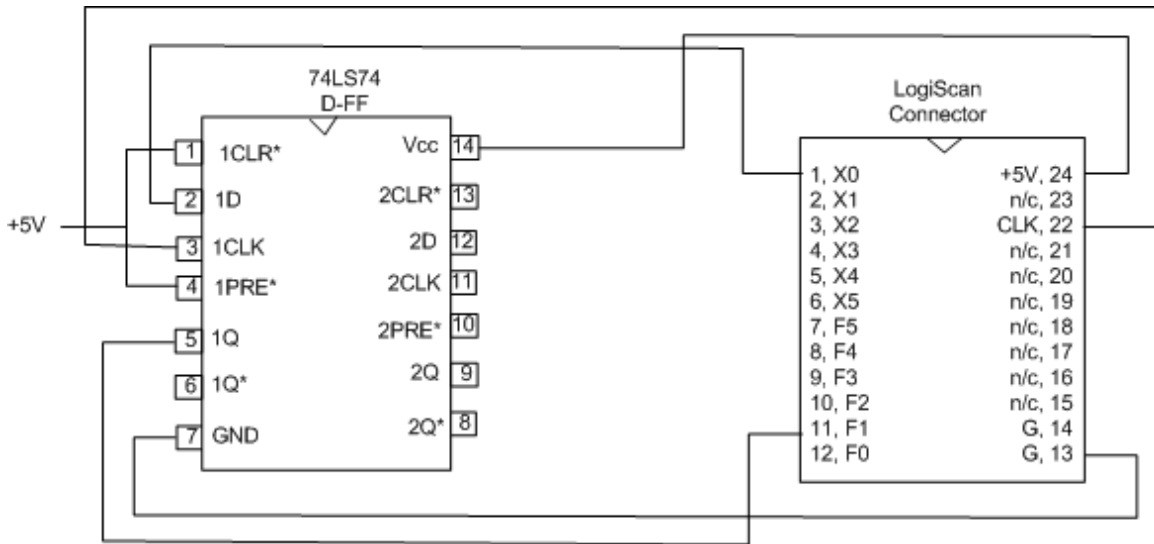

Figure 10: D-FF test circuit
Step 1) Make connections on your breadboard as shown in Figure 10. Notice that the input “1D” is connected to X0, the output “1Q” is connected to F1, and “1CLK” to CLK (pin 22). CLR* and PRE* are inverted logic, and both are connected to +5V (Logic 1 = no preset, no clear).